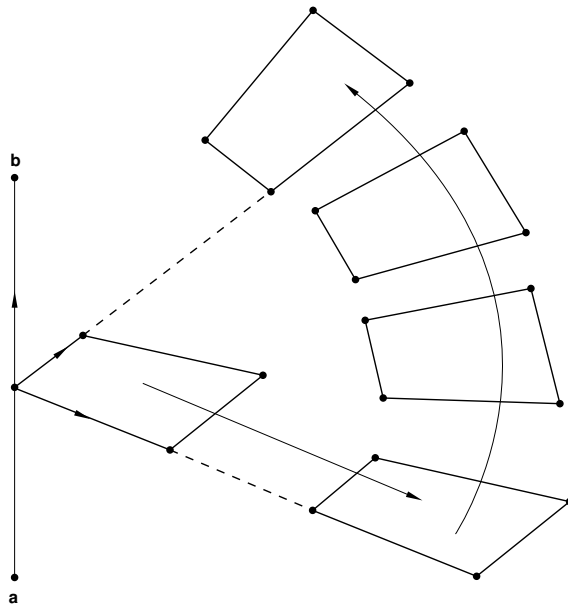

Figure 1: *NCOPY, SHIFT option.
1. X -coordinate of the first point defining the rotation axis (point a in Figure 1).
4. X -coordinate of the second point defining the rotation axis (point b in Figure 1).